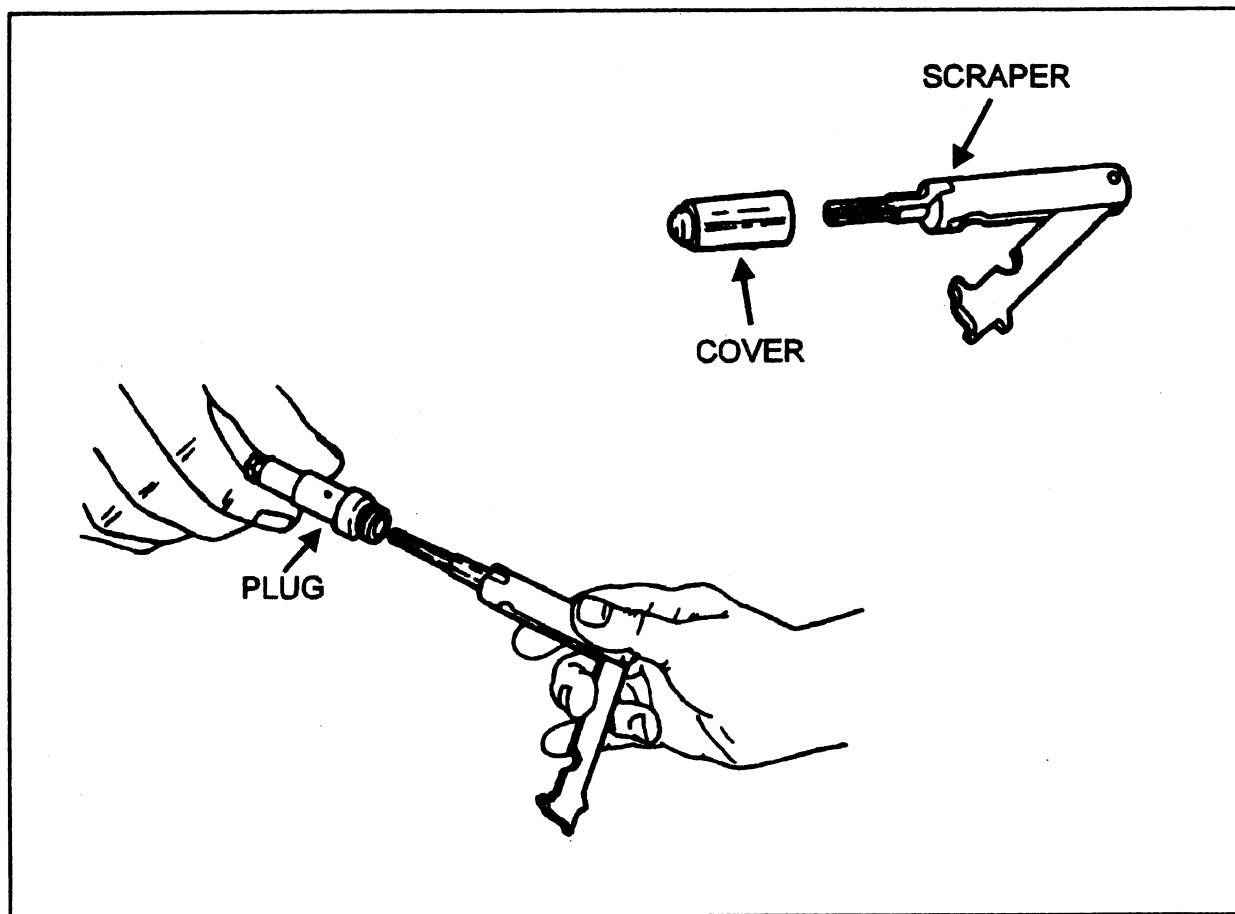

Fig 1-22. Cleaning the gas plug.
- (1) Remove the cover from the scraper. Insert scraper into the center hole of the plug. Twist the scraper back and forth to remove carbon (see fig 1-22).